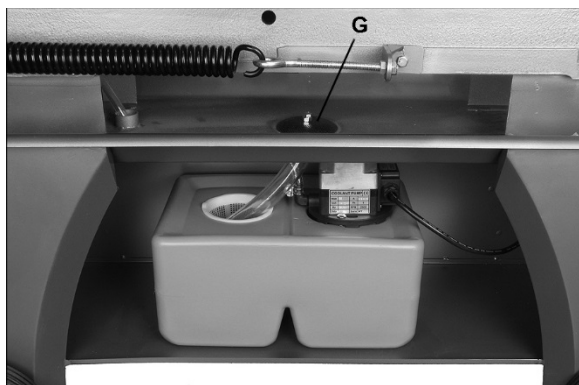

Figure 6-10: Coolant Tank
9. Place filter assembly (G, Figure 6-10) over drain hole.
3. Make sure coolant hose is properly connected at each end, and return hose is connected to drain hole and positioned in strainer cup, as shown in Figure 6-10.